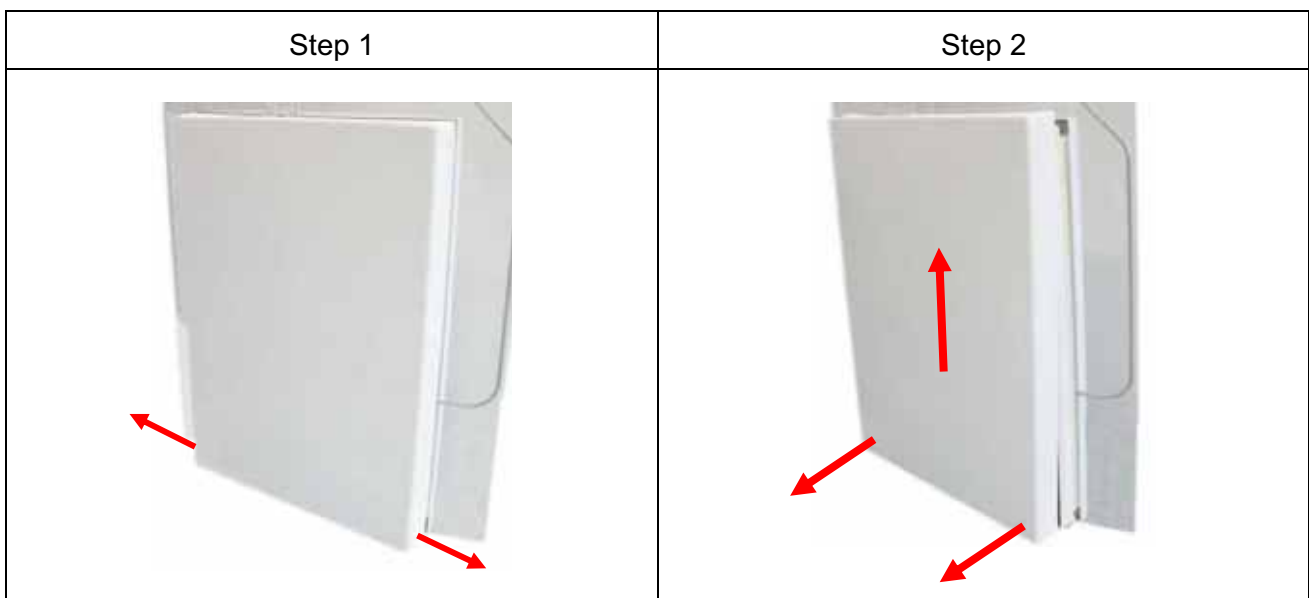

Fig. 4: Opening the antenna base
2. Afterwards, the antenna has to be placed carefully on the floor again. Now, the two fastening screws (hexagon socket width AF 2,5) have to be removed from the antenna base cover. By moving the cover upwards, carefully, remove the cover from the antenna base. Fig. 4